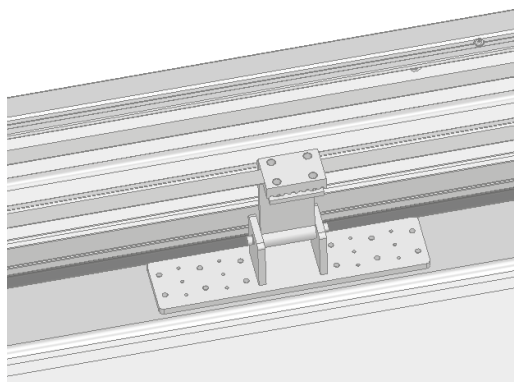

Fig. 10
- Secure the driver lever to the leaf door (Fig. 10).